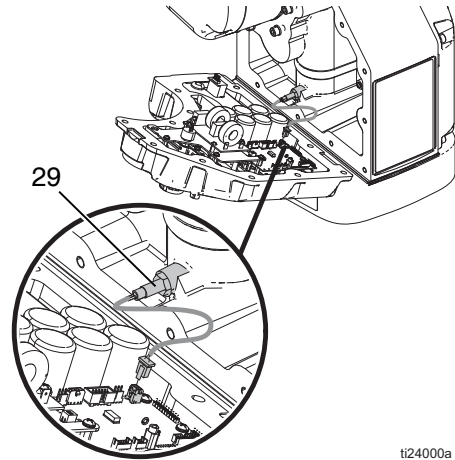

FIG. 19: Stroke Position Sensor
- Stroke position sensor (29). See FIG. 19 on page 17.